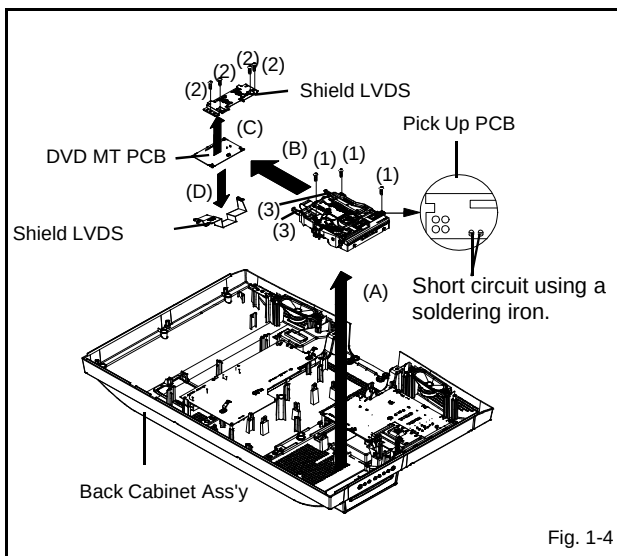

Fig. 1-4
1-4: DVD MT PCB and DVD DECK (Refer to Fig. 1-4)
2. Short circuit the position shown in Fig. 1-4 using a soldering iron. If you remove the DVD Deck with no soldering, the Laser may be damaged.
4. Remove the 3 screws (1).
5. Remove the DVD DECK Ass'y in the direction of arrow (A).
6. Remove the 4 screws (2).
7. Unlock the 2 supports (3).
8. Remove the DVD MT PCB in the direction of arrow (B).
9. Remove the Shield LVDS in the direction of arrow (C).
10. Remove the Shield LVDS Bottom in the direction of arrow (D).